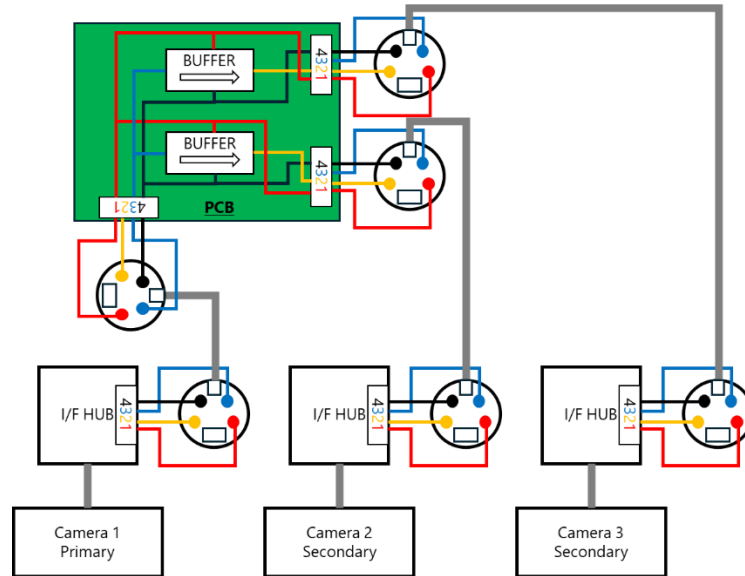

Figure 39. Example of a conversion board (PCB) for parallel camera connection
- When connecting cameras together, pin 2 must be connected as input and pin 3 as output. For this reason, straight MINI-DIN 4P cables cannot be used. Therefore, prepare the converter board shown in **Figure 39. Example of a conversion board (PCB) for parallel camera connection.**